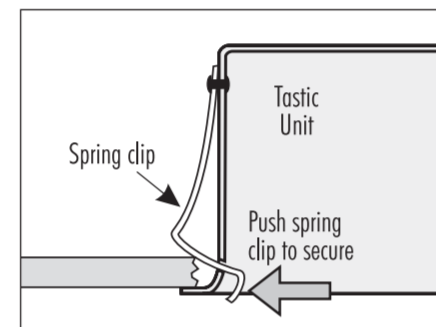

Fig. 21
3. To secure the unit in position, push lower ends of springs apart (Fig 21). Ceiling board thickness should be adjusted to enable springs to be fitted without excessive force.